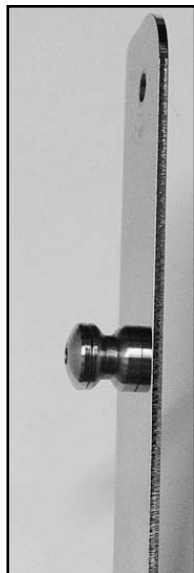

Figure 1
5. Remove the small Lower Spool from the Mount Bracket (**4mm Hex Key**). **Figure 1**